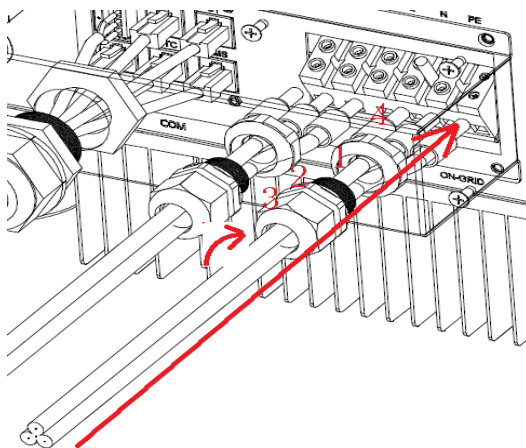

Fig. 6.3.1.1
- ① Make sure that the AC circuit breaker has been disconnected.
- ② According to the wire diameter in Table 6.2, select the L (red/brown), N (black/blue) and PE (yellow-green) cables with appropriate wire diameter, strip off 5 mm insulation layer and route the cables through the waterproof cover and waterproof terminal as shown in Fig. 6.3.1.1:
- ③ Fix the waterproof terminal on the waterproof cover. In Fig.6.3.1.1, route 2 through the waterproof cover and tighten 1.